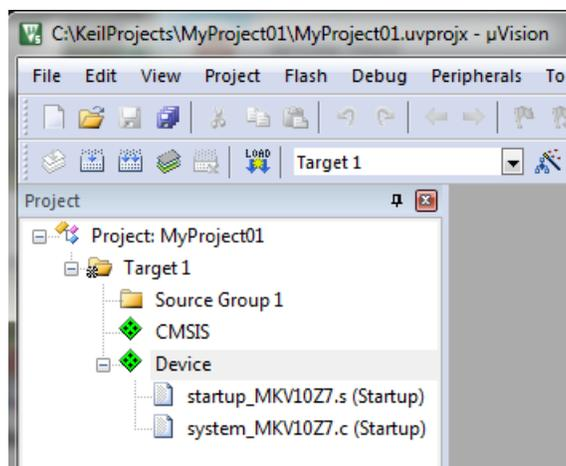

Figure 1-31. Project
10. Click OK, and a new project is created. The new project is now visible in the left-hand part of Keil μVision. See Figure 1-31.